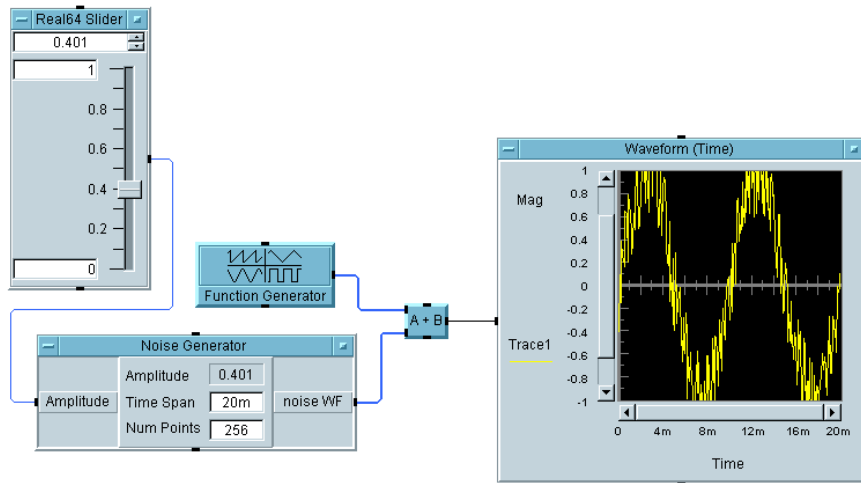

Figure 2-13. simple-program.vee
1. Open the program `simple-program.vee`. The program should look like Figure 2-13.